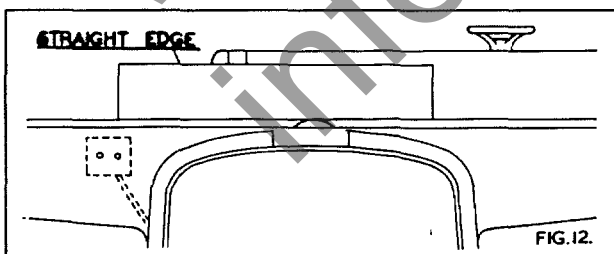

FIG.12.
6. To check the setting of the knives raise the back planing table to its top position i.e. the zero mark on the rule or $\frac{1}{16}$ " (1.5 mm) above the outer surface of the cutterblock. Place a straight edge on the table as shown in fig. 12 and rotate the cutterblock by hand until the knife just touches the straight edge. Repeat this check in various positions over the width of the table to ensure the knife is parallel. Repeat this procedure for all knives.